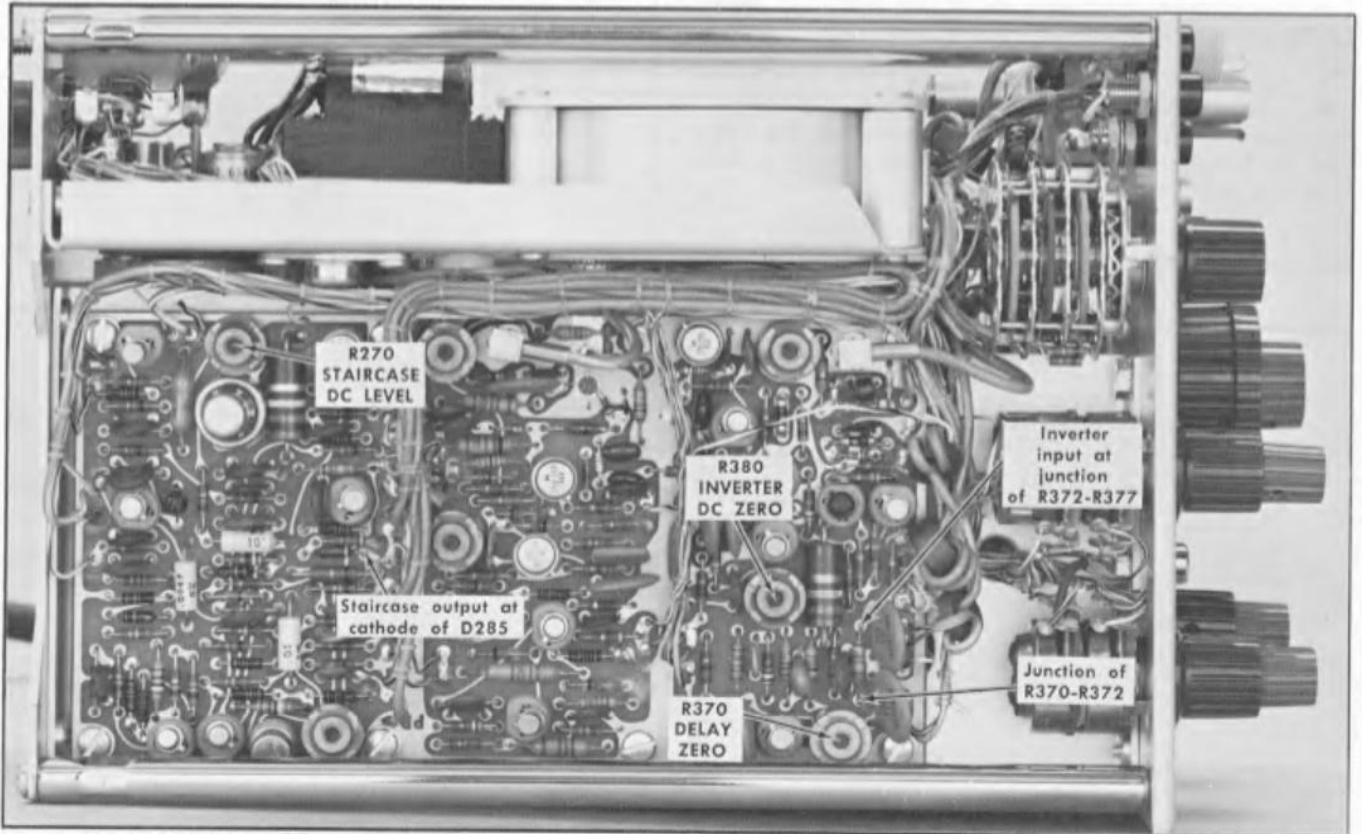

Fig. 5-11. Staircase and inverter adjustments on right side of Type 151. (Unit is positioned upside-down on test bench.)
c. Connect the test probe to the staircase output at the cathode of D285 (see Fig. 5-11).
h. Adjust R270 (STAIRCASE DC LEVEL) if the display is not correct. See Fig. 5-11 for the location of R270.
b. Connect the test probe to the junction of R370 (DELAY ZERO) and R372 (see Fig. 5-11).
e. Adjust R370 to position the free-running trace to the horizontal centerline of the test oscilloscope. See Fig. 5-11 for the location of R370.
f. Move the test probe tip to the staircase inverter input, located at the junction of R372 and R377 (see Fig. 5-11). This is at the other end of the same resistor.
i. Adjust R380 (INVERTER DC ZERO) if the level is not correct. See Fig. 5-11 for the location of R380.